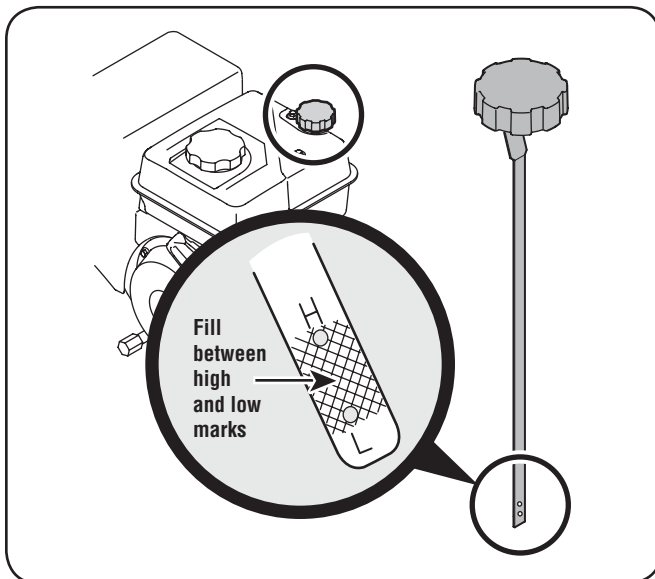

Figure 3-3
- Keep oil level between “H” and “L” marks on dipstick. See Fig. 3-3.
1. Remove the oil filler cap/dipstick and wipe the dipstick clean. See Fig. 3-3.
3. Remove the oil filler cap/dipstick. If the level is low, slowly add oil until oil level registers between high (H) and low (L), Fig. 3-3.